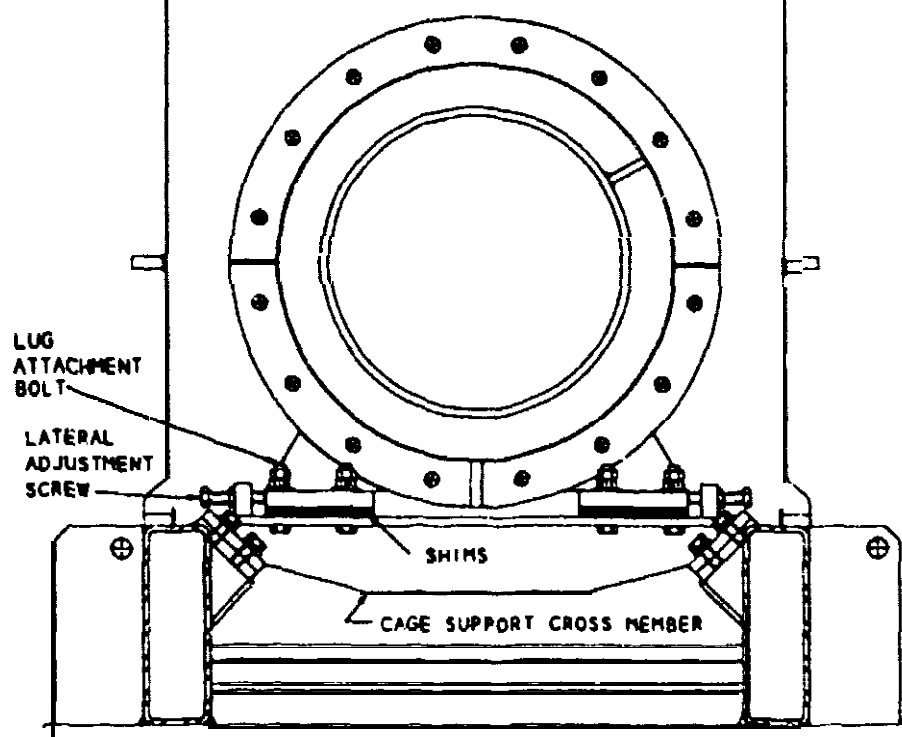

Figure 4.1-2
- a. Refer to **Figure 4.1-2**. Remove the attachment bolts on both (left and right) cage lugs. Loosen the jam nuts and back off the **lateral adjusting screws  $\frac{1}{2}$  turn (both sides)**.